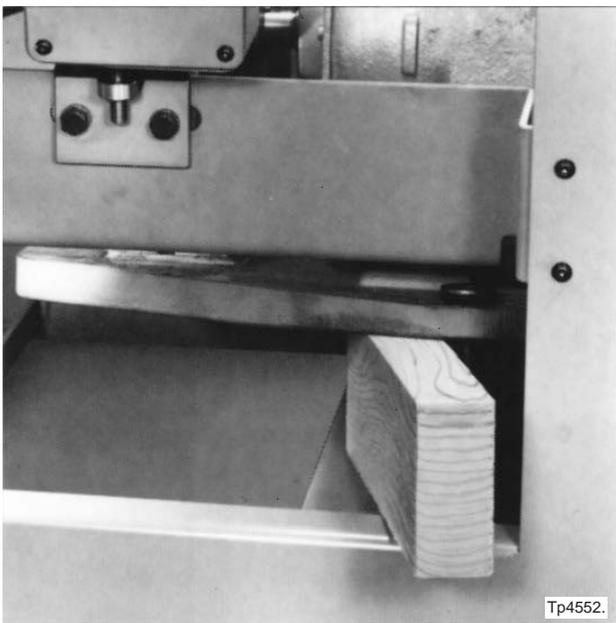

Figure 6.5 - Motor Mounting Plate Blocked in Position
11. Raise the front of the motor mounting plate approximately two inches and block it in this position, as shown in Figure 6.5 .